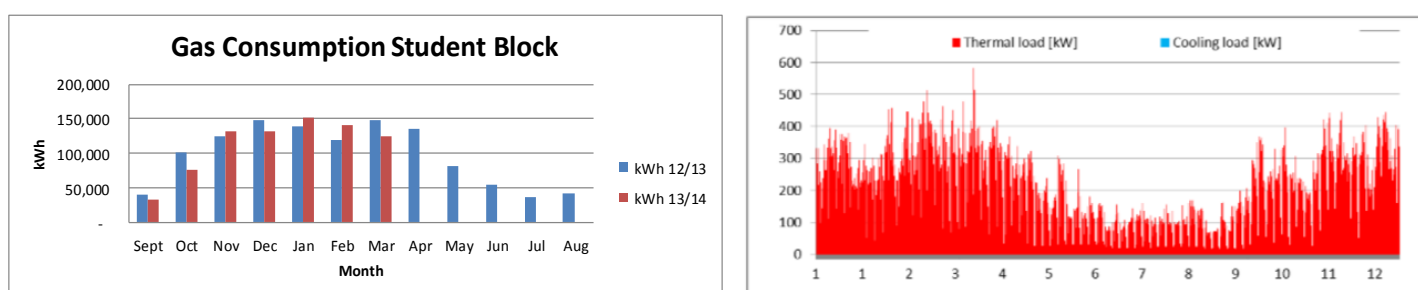

Figure 1 Monthly (kWh) and Hourly (kW) Thermal Profiles for a Typical Student Accommodation Block
**Solution:** The smallest Sharc unit, the 440, will supply 99.5% of the thermal load required at the student accommodation block. Its peak output is 462kW. Figure 1 demonstrates that the peak demand of 583kW occurs very infrequently, which is why a 462kW unit will supply the vast majority of the demand.